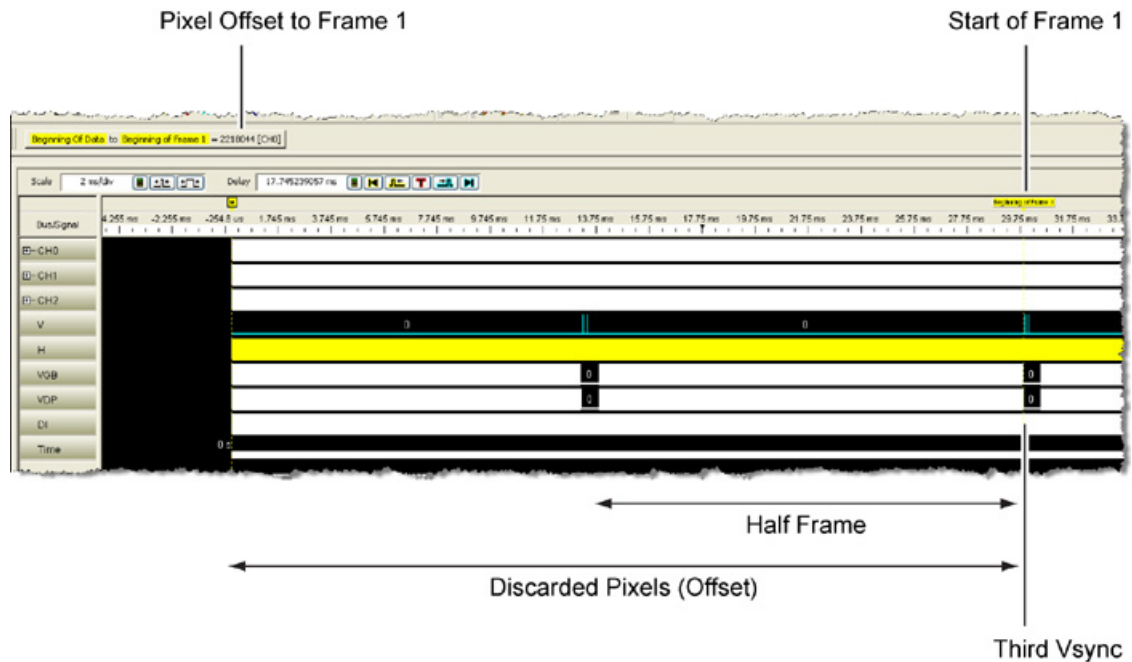

Figure 29 Pixel Offset is Greater than 50% of Frame Width
- greater than 50% of frame width, then the first frame begins at the last falling edge of the VDP to precede the third VSYNC. See Figure 29.